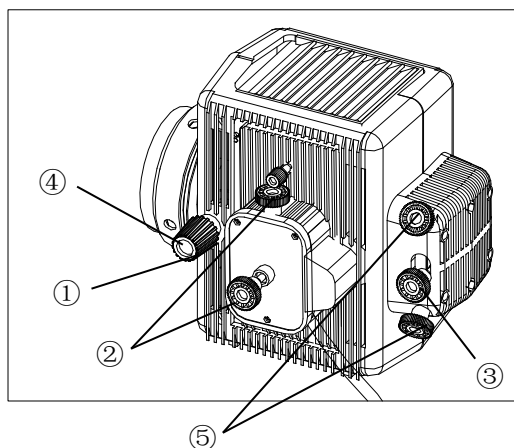

Fig.11
**6 Center the arc image and the mirror image of the arc. (Fig.11, 12)**
**Centering the mirror reflected image (Fig.11)**